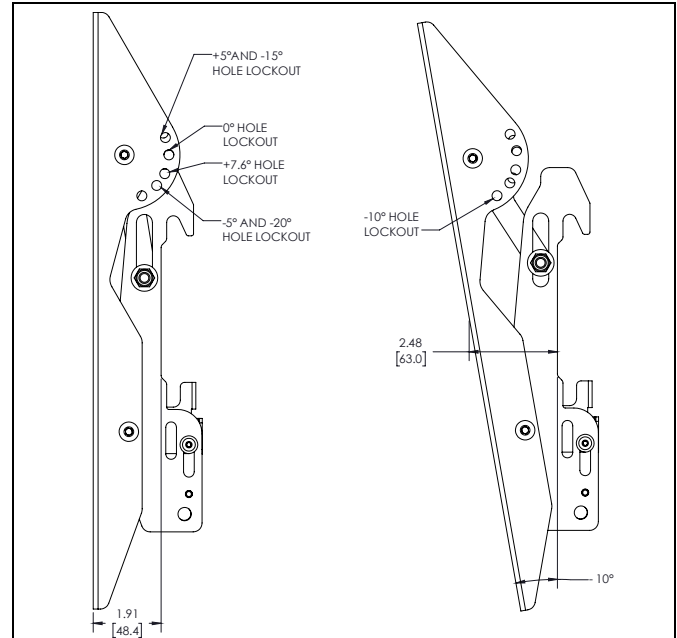
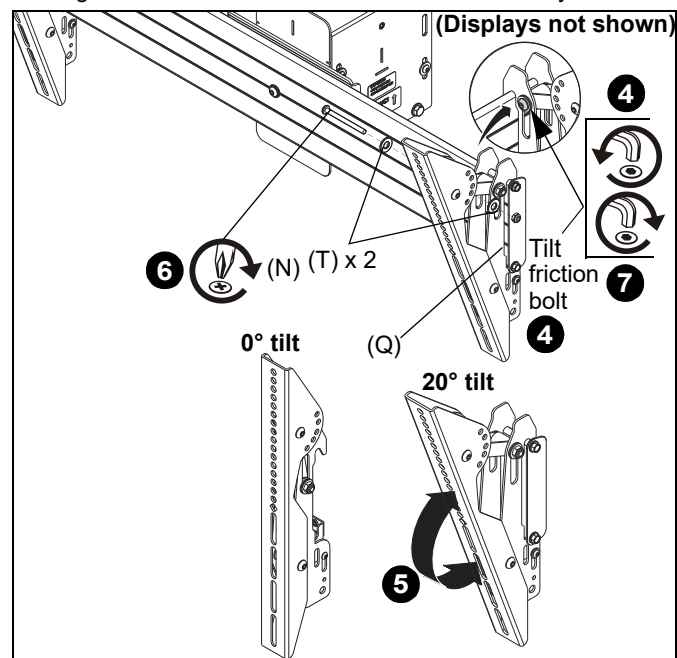

Figure 15
Figure 16
The interface brackets allow -7.6° to 20° tilt, and can be locked at -7.6°, -5°, 0°, 5°, 10°, 15° and 20° tilt. (See Figure 15)
4. If necessary, loosen button head tilt friction bolt (located on side of interface bracket). (See Figure 16)
5. Adjust tilt as required. (See Figure 16)
6. The tilt may be locked at -7.6°, -5°, 0°, 5°, 10°, 15° and 20° using one 1/4-20 x 2" Phillips head screw (N), one 1/4-20 lock nut (Q) and two 1/4" washers (T) per interface bracket. (See Figure 15) and (See Figure 16)
**NOTE:** Use of washers (T) is optional.